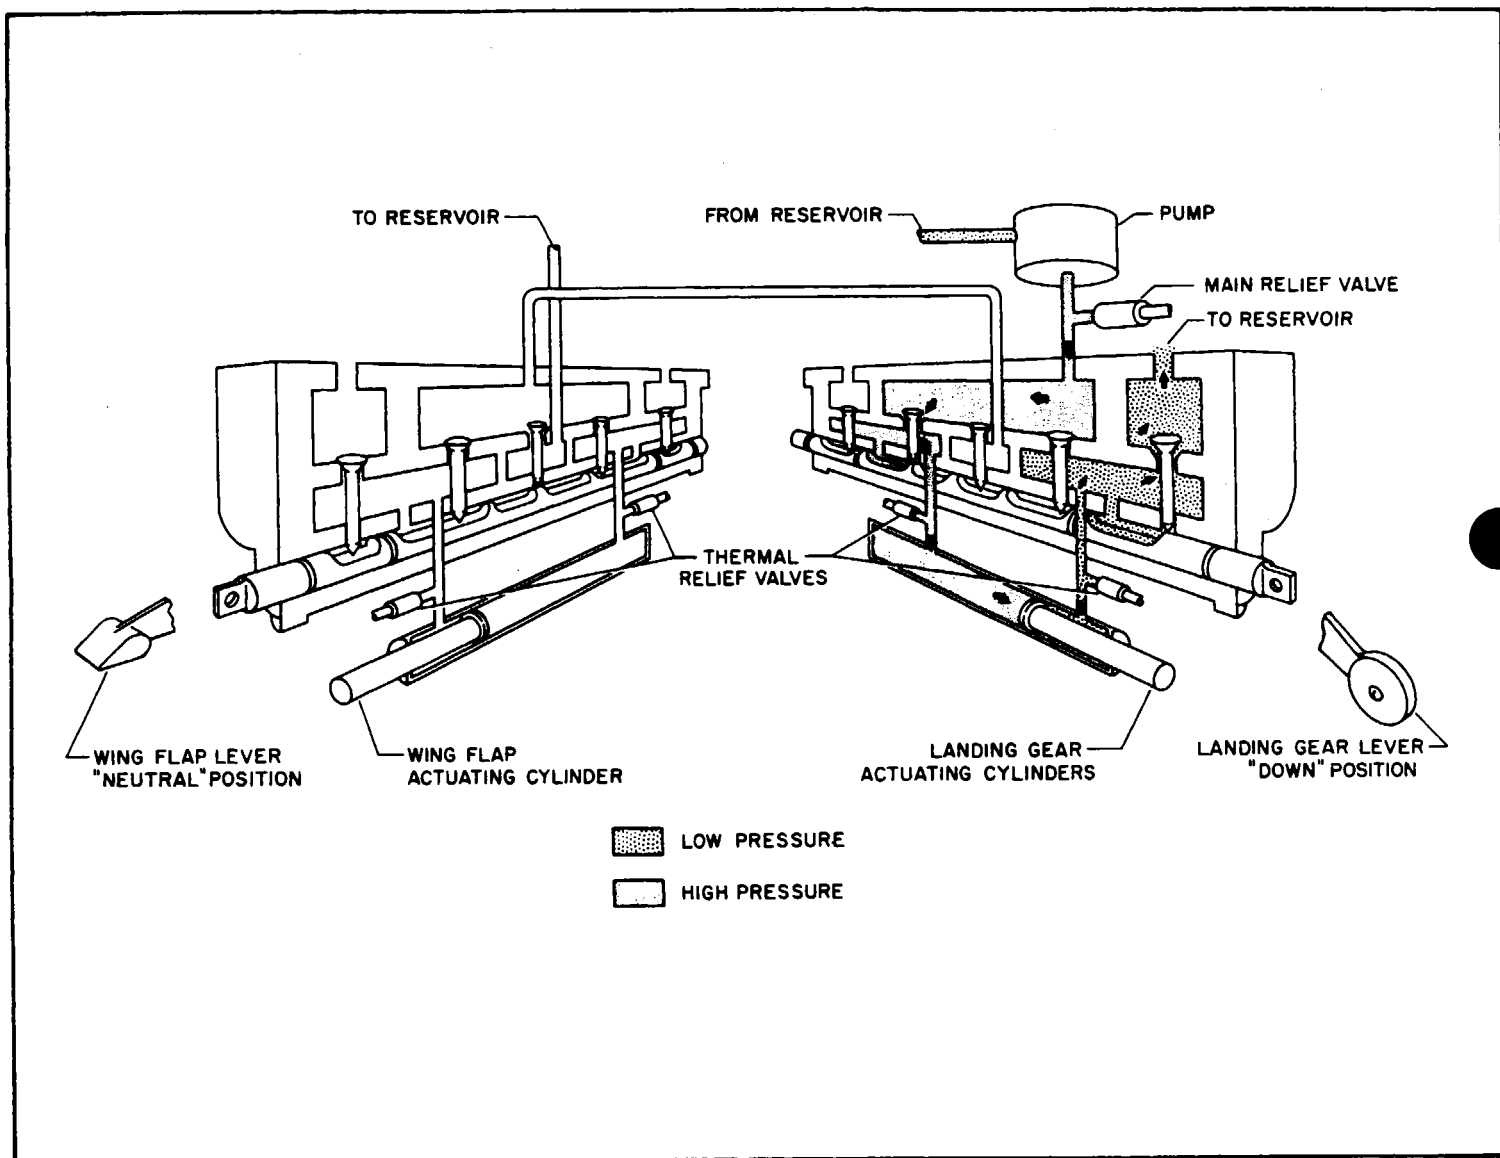

Figure 6-3. Flow Diagram Landing Gear Selector Lever "DOWN"
b. "LANDING GEAR" selector lever "DOWN". When the selector lever is moved to the "DOWN" position, the operation is identical with that described in step "a" above, except that because the selector lever spool (128, Figure 6-7) moves in the opposite direction, the ball (79) snaps into the groove (B). The spring (125) is under compression in this case. Fluid is directed in the opposite direction, as is shown in Figures 6-3 and 6-5.